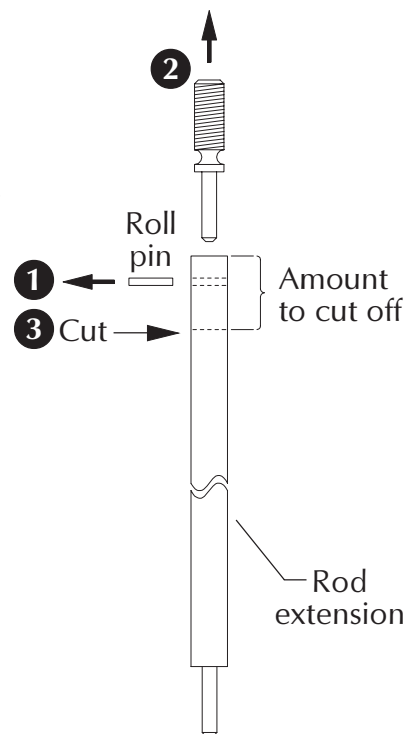

Figure 9-2
9.2. Cut rod extension (Figure 9-2).